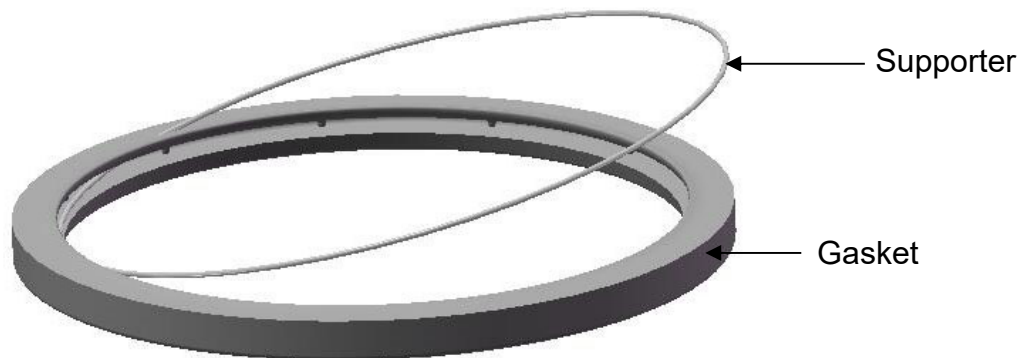

Figure 171
1. Remove the old gasket from the door, and then take out the gasket o-ring from the gasket. Install the gasket o-ring to the new gasket as shown in Figure 171.